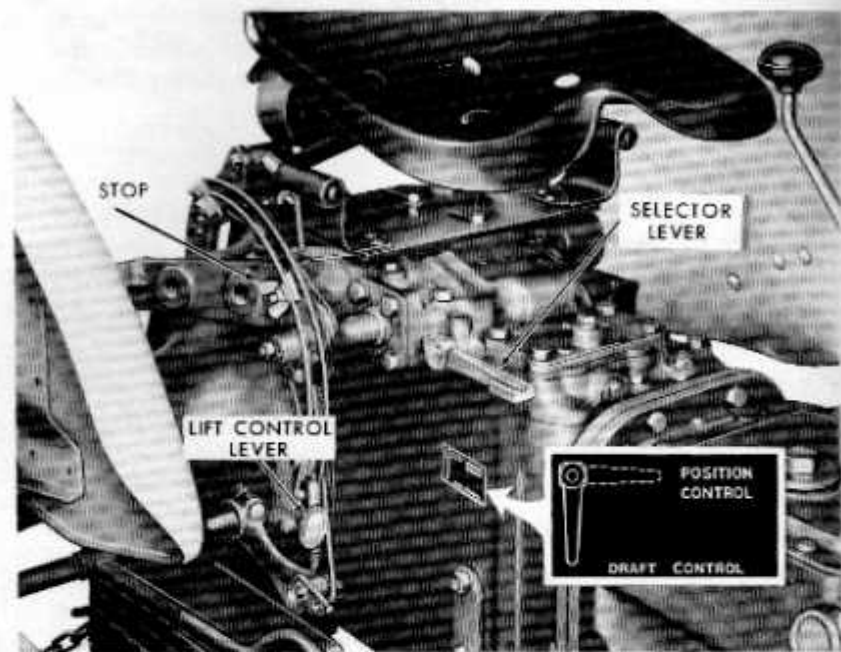

Figure 13
**Implement Position Control:** To operate the hydraulic system in Implement Position Control, move the selector lever at the side of the tractor seat into the "UP" position (see Figure 13), and set the implement at the desired depth by moving the Lift Control Lever down. Where the ground is relatively level, the position control will keep the implement at the desired depth, even though the soil texture may vary.
**Constant Draft Control:** With the selector lever in the "DOWN" position, as shown in Figure 13, the hydraulic system is operating in Constant Draft Control. When an implement is lowered to work at a certain depth, the draft control will maintain the same draft, even though the ground contour or soil texture may change. If the draft increases, the hydraulic system will respond by raising the implement to decrease the draft. At the same time, the weight will shift to the tractor rear wheels, increasing traction until the implement has been automatically repositioned and the draft is decreased.